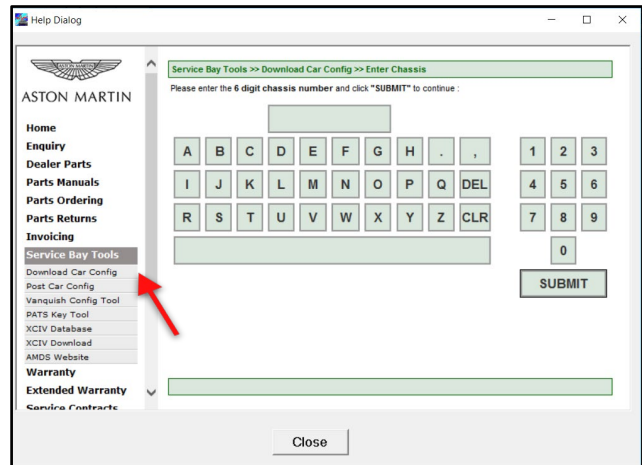

Figure 4
8. Click "Service Bay Tools" then "Download Car Config" (refer to Figure 4).